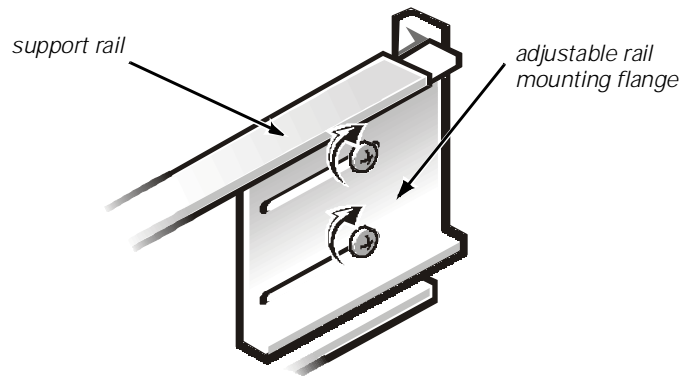

Figure 1. Adjustable Rail Mounting Flange
2. If the two adjustable rail mounting flanges are not already attached to the support rails, attach one flange to one of the support rails using two 10-32 x 1/2-inch Phillips-head screws, as shown in Figure 1. Do not tighten the screws at this time.